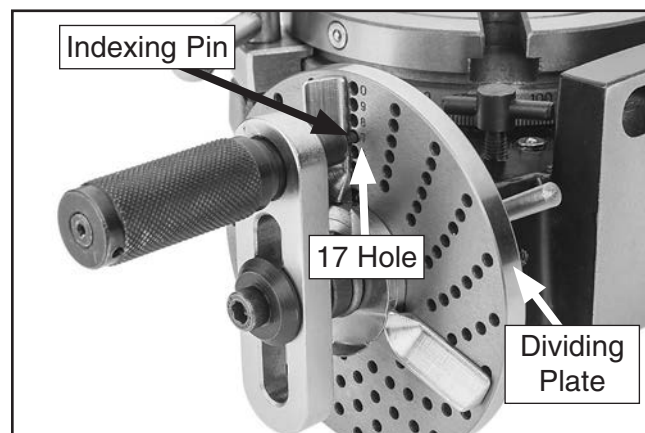

Figure 26. Indexing pin placement.
- Install 17-hole circle dividing plate onto rotary table, as described earlier. Set crank handle and indexing pin to index 17-hole circle (see **Figure 26**).